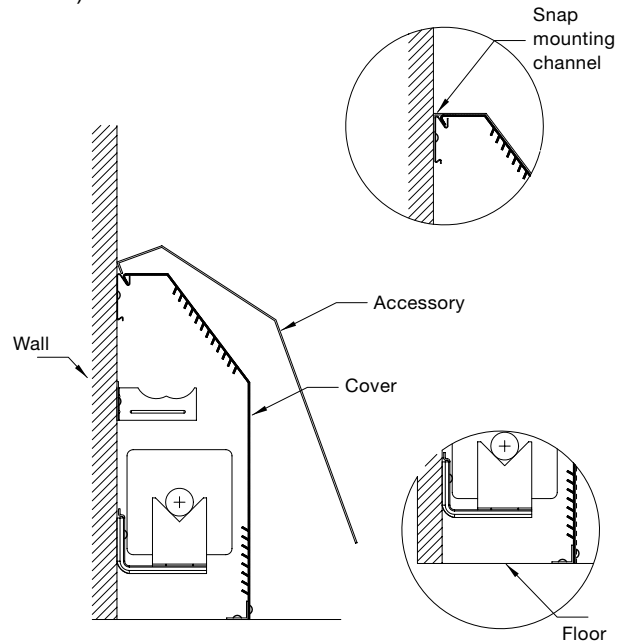

Figure V-6
2. Install accessories between the wall and wall channel at the top and around the cover at the bottom. Secure cover to floor mounted angle using suitable fasteners. (Figure V-6)